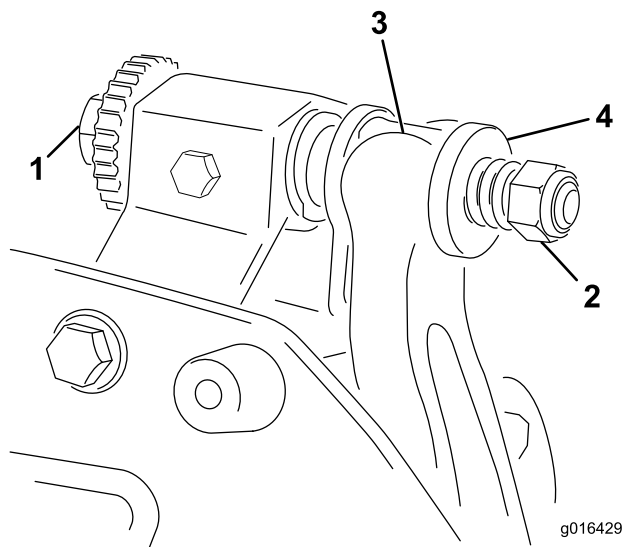

Figure 18
1. Turn bedbar adjuster screw, counterclockwise, to back bedknife away from reel (Figure 18).
2. Back out the spring tension nut, until the washer is no longer tensioned against the bedbar (Figure 18).